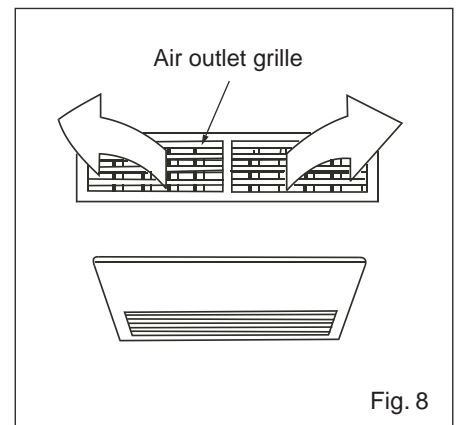

Fig. 8
- 5) Detach the lower hinges (Fig. 8) of air inlet grille, to separate the grille itself from the Indoor Unit's body.
- 1) Remove air outlet grille from its place, at the end of air outlet duct (Fig. 8). Please carry out this operation gently, in order to avoid to damage flaps and louvers for adjusting airflow direction.